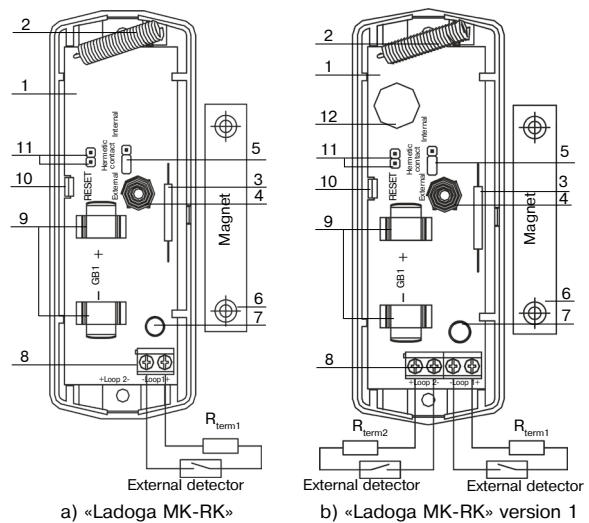
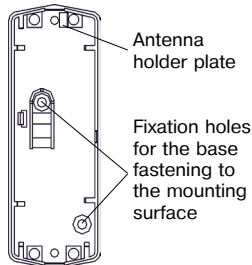

Figure 1
Figure 2 – The Base
The built-in magnetic contact is disabled by jumper «Hermetic Contact» (see Figure 1) applying.
8.2 Choose the place of installation. Mark the holes layout, for the purpose the base of the Detector can be used (See Figure 2).
Fasten the base with screws. For the wall tampering control fasten the screws as shown in Figure 2. Install the PCB, connect the wires of monitored loops to terminal blocks (8) and close the cover. The length of the loops must not exceed 5 m. Install the terminal (EOL) resistor Rterm (5.1 kΩ) at the end of the loop as shown in Figure 1. The connections must be soldered or screwed.